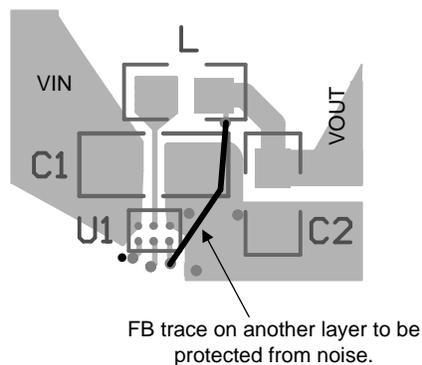

Figure 32. Feedback Trace
6. Route noise sensitive traces such as the voltage feedback path away from noisy traces between the power components. The output voltage feedback point should be taken approximately 1.5 nH away from the output capacitor. **The voltage feedback trace must remain close to the LM3241 circuit and should be routed directly from FB to VOUT at the inductor and should be routed opposite to noise components.** This trace placement allows fast feedback and reduces EMI radiated onto the voltage feedback trace of the DC-DC converter (see Figure 32).